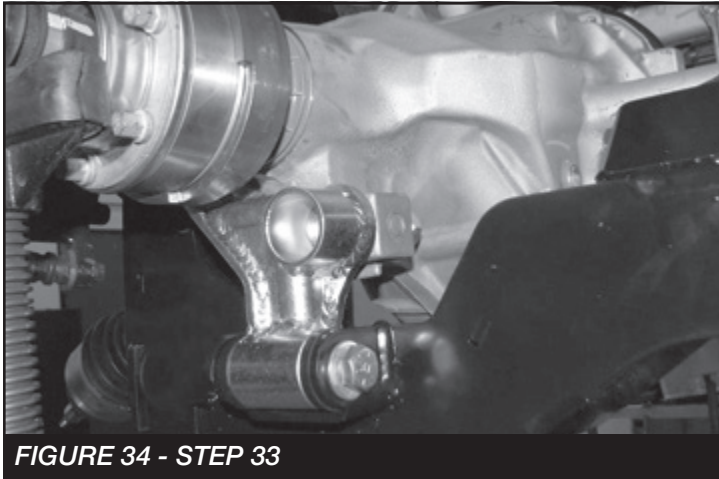

FIGURE 34 - STEP 33
33. Install a 1/2-13x2 bolt, washers and nut through the bracket and diff. Torque the bolt in the diff to 90 ft-lbs and the bolt in the crossmember to 90 ft-lbs. **SEE FIGURE 34**